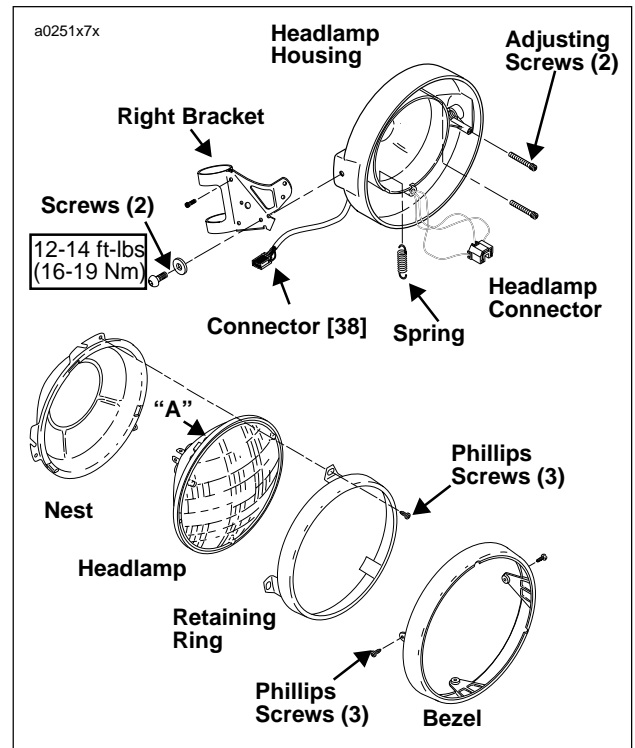

Figure 7-64. Headlamp Assembly
2. See Figure 7-64. Remove three phillips head screws and bezel from nest.
1. See Figure 7-64. Using 3/16 allen bit, remove two screws and washers and partially remove headlamp housing from vehicle.
- b. See Figure 7-64. Install bracket with two allen screws.
2. See Figure 7-64. Attach connector [38] to wiring harness.
3. See Figure 7-64. Install headlamp housing using two screws and washers. Tighten to 12-14 ft-lbs (16-19 Nm).
1. See Figure 7-64. Connect headlamp connector to rear of headlamp.